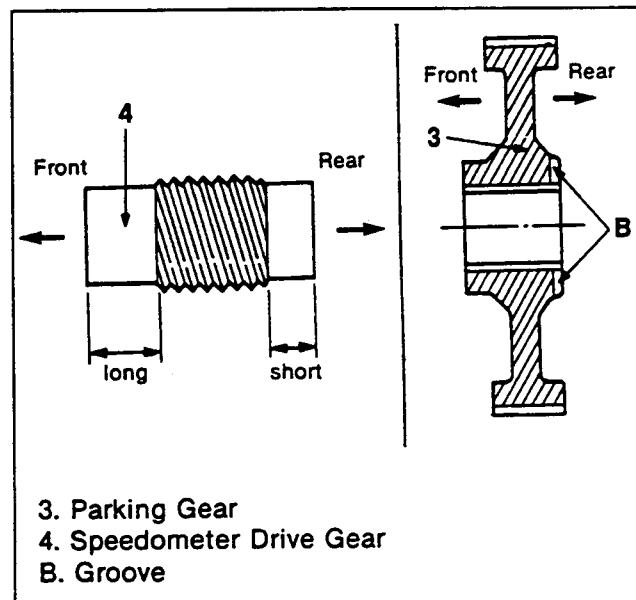

Figure 186. Speedometer Drive Gear and Parking Gear Direction
- Note correct direction of the speedometer drive gear and parking gear (figure 186).